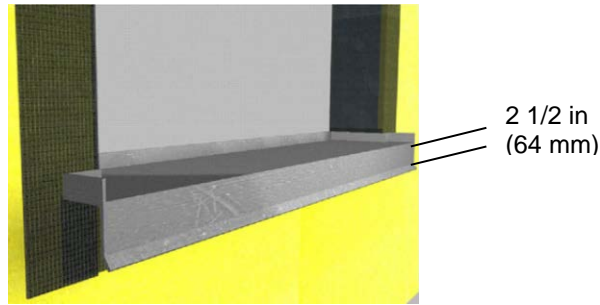

Figure 7
- a. Install a watertight pan flashing at all sill locations - Figure 7.
- c. The flashing shall extend a minimum of 2 1/2 in (64 mm) down over the face of the Outsulation PE System - Figure 7.